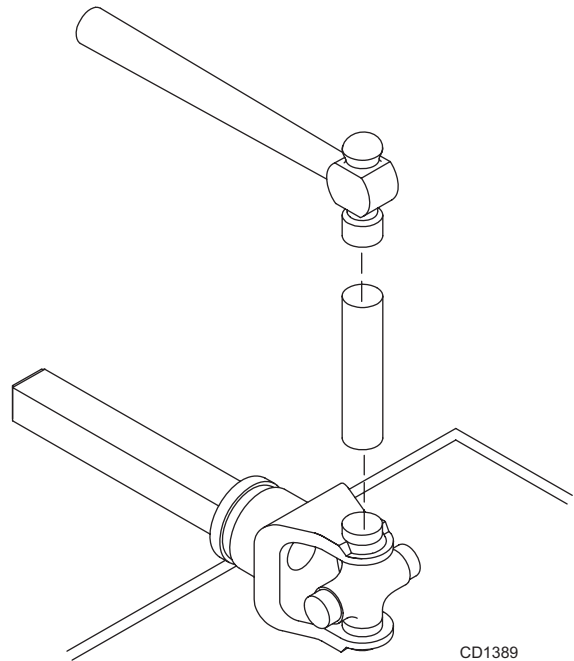

Figure 22. Install Cups
2. Seat cups by placing a drift or socket (slightly smaller than the cup) on cup and rap with a hammer. See Figure 22. Install snap ring and repeat on opposite cup